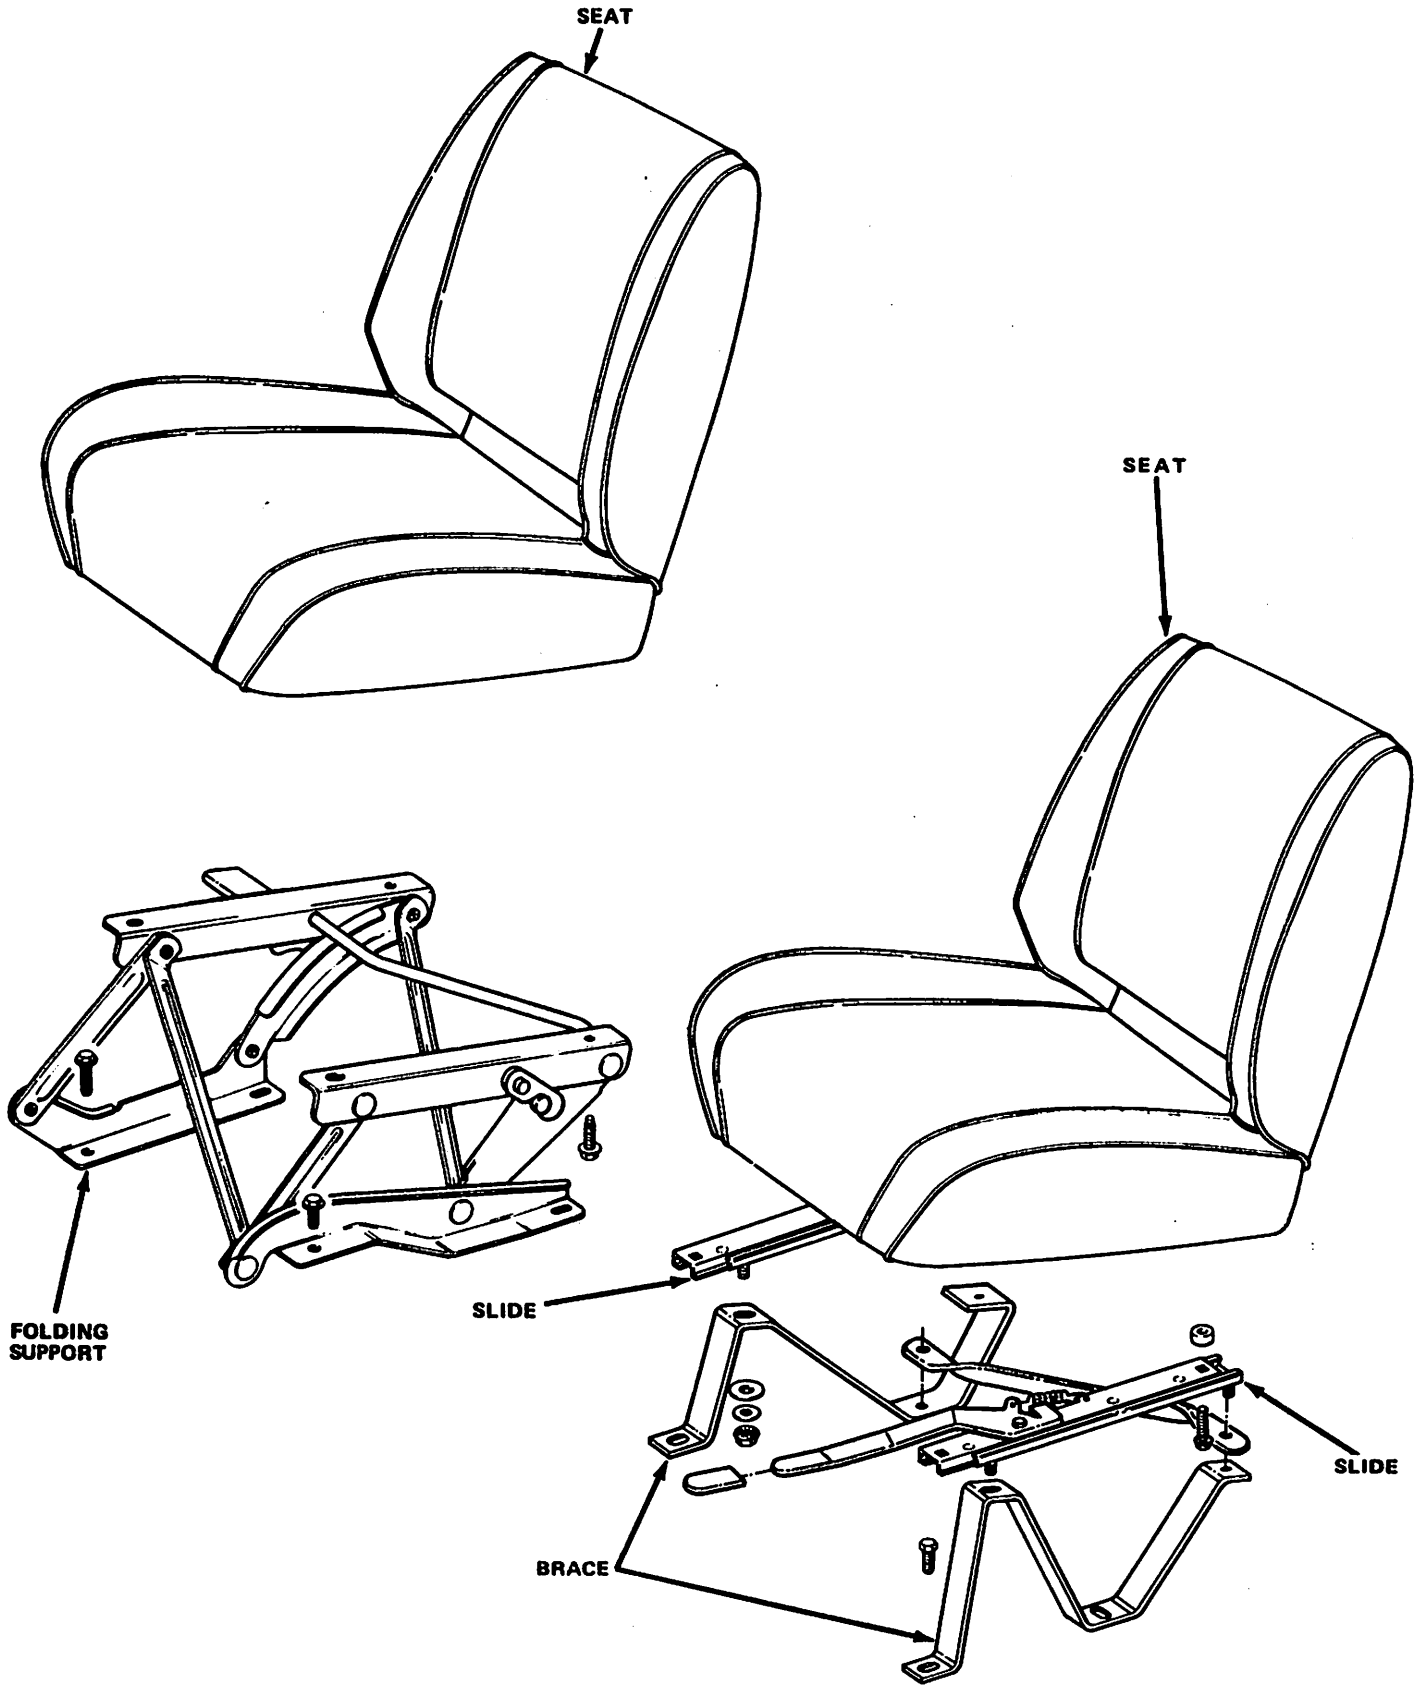

Fig. 3M-1 Bucket Seats—CJ and Scrambler Models
Bucket seats are standard on CJ, Scrambler and Cherokee 2-door models (fig. 3M-1) and optional on the Wagoneer, 4-door Cherokee, and Truck models. The passenger side bucket seat, except CJ, is adjustable fore and aft. On Cherokee 2-door models, the passenger side bucket seat has a forward tilting seat back for access to rear seat or tool storage area. On truck models, both passenger and driver seat backs are forward tilting. A folding support for passenger side bucket seat on CJ and Scrambler models allows the whole seat to move forward for easier entry to the rear area. CJ-7 Limited models equipped with highback bucket seats have a folding support on the driver's seat also.
- (1) Remove screws (fig. 3M-1) attaching supports and braces to floorpan.
- (2) Remove seat assembly from vehicle.